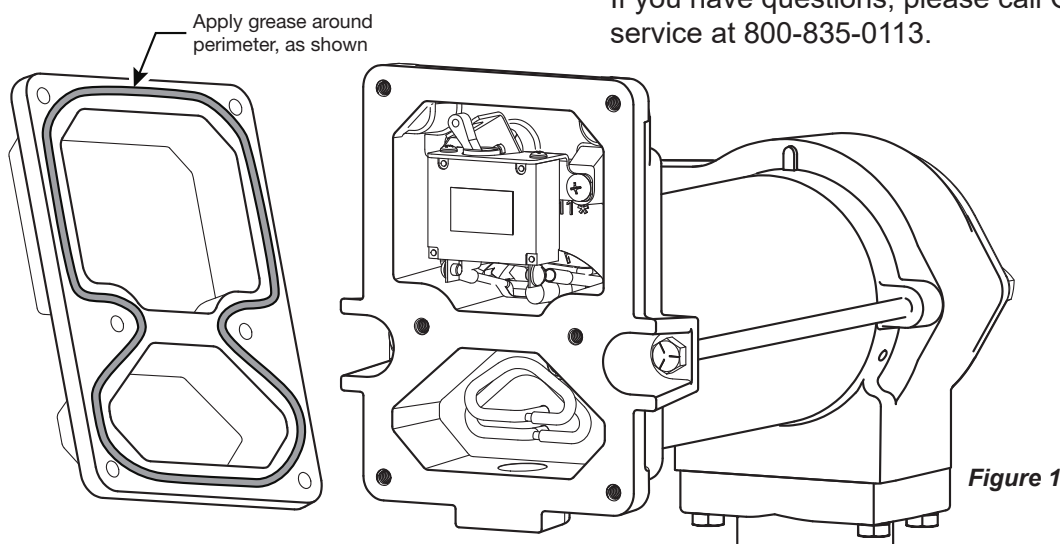

Figure 1
2. Apply a light coating of Lubriplate 1242 (or equivalent) white lithium grease to coverplate perimeter, as shown in **Figure 1**.